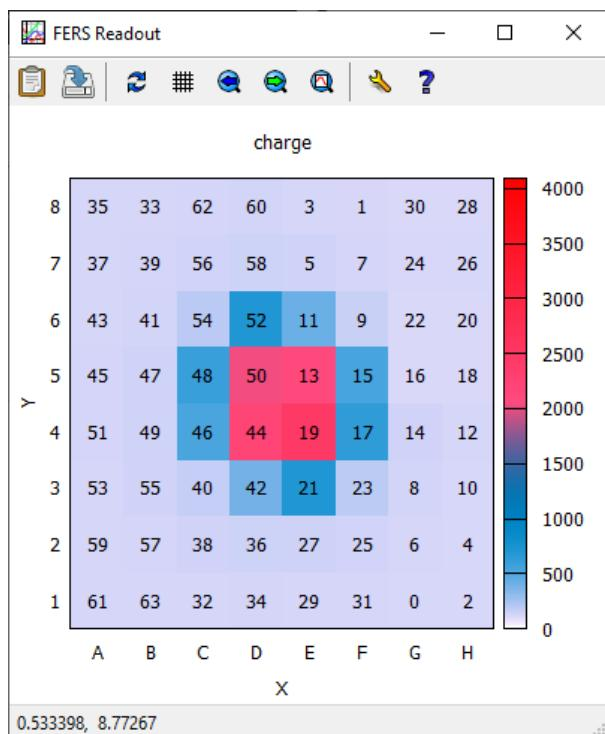

Fig. 10.45: Example of 2D pulse height spectrum.
7. By selecting the "2D-Charge HG" option for the "Plot Type" parameter it is possible to visualize the 2D spectrum of the pulse height average values for each channel. An output similar to that presented in Fig. 10.45 should be obtained. The user can check the correspondence between the channel ID number and the position in the 2D-spectrum by looking at the values printed on each pixel of the 2D spectrum (e.g. channel 11 corresponds to the E6 position). This correspondence is loaded by the software from the "pixel_map.txt" file in the "bin" folder.